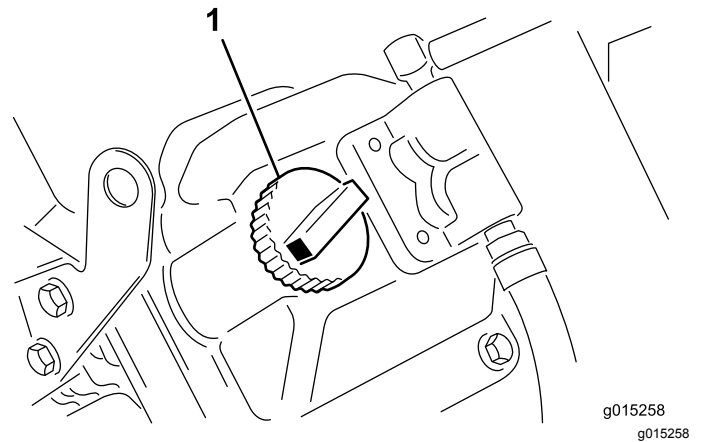

Figure 9
5. If the oil level is below the Full mark, remove the filler tube cap and add oil until the level reaches the Full mark on the dipstick (Figure 9).